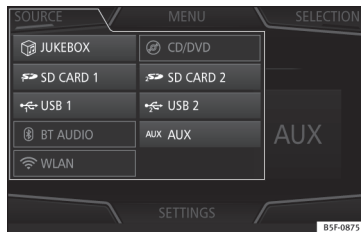

Fig. 150 MEDIA mode: switching media source.
- From the *Media* main menu, press the **SOURCE** function button >>> Fig. 150 and select the desired media source.